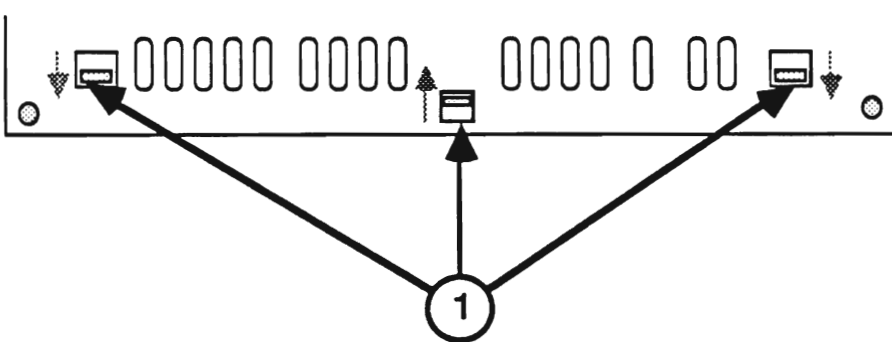

FIGURE 4
4. Turn the machine over and remove the case hinge by inserting your finger or a small (jeweler's) screwdriver into each tab, one at a time (see Figure 4, #1). The case hinge will pop free when each tab is released.
1. Position the case hinge so that the tabs line up with the holes in the bottom case (see Figure 4, #1).